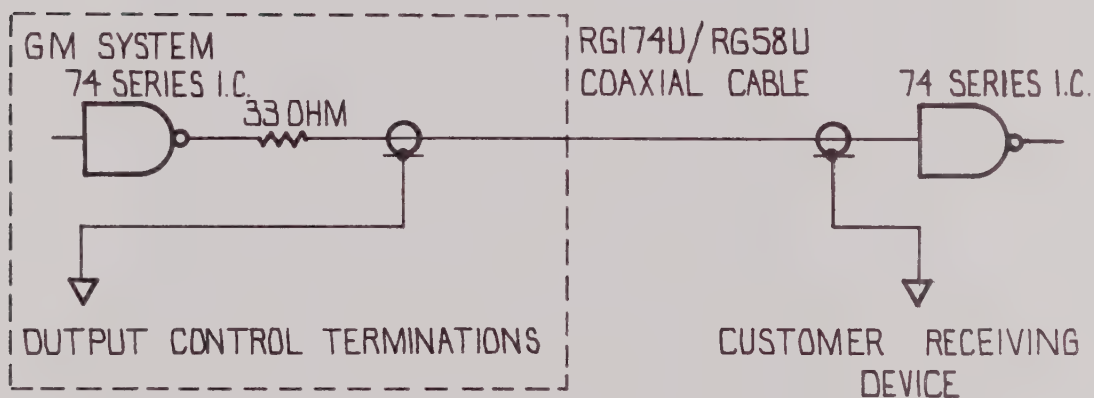

FIGURE 1.2
1.3.2 Output Control and Data Lines (Figure 1.2) Terminations
The logic used as drivers for the output control and the digitized data lines are TTL 74 Series integrated circuits. These lines are internally provided with a 33 ohm series resistor per line and are designed to drive a 50 ohm impedance coaxial cable, typically either #RG174U or #RG58U (See Figure 1.2).